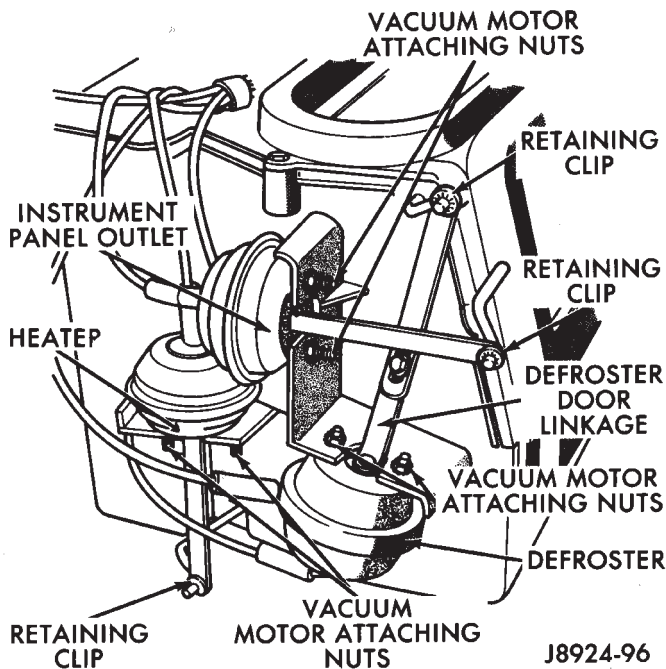

Fig. 18 Vacuum Motor
- (2) Remove the lower instrument panel.
- (3) Disconnect the vacuum hose(s) from the vacuum motor.
- (4) Remove the vacuum motor attaching nuts and remove the vacuum motor from the bracket.
(5) Remove the vacuum motor linkage retaining clip and remove the rod from the door actuating lever (Fig. 18).